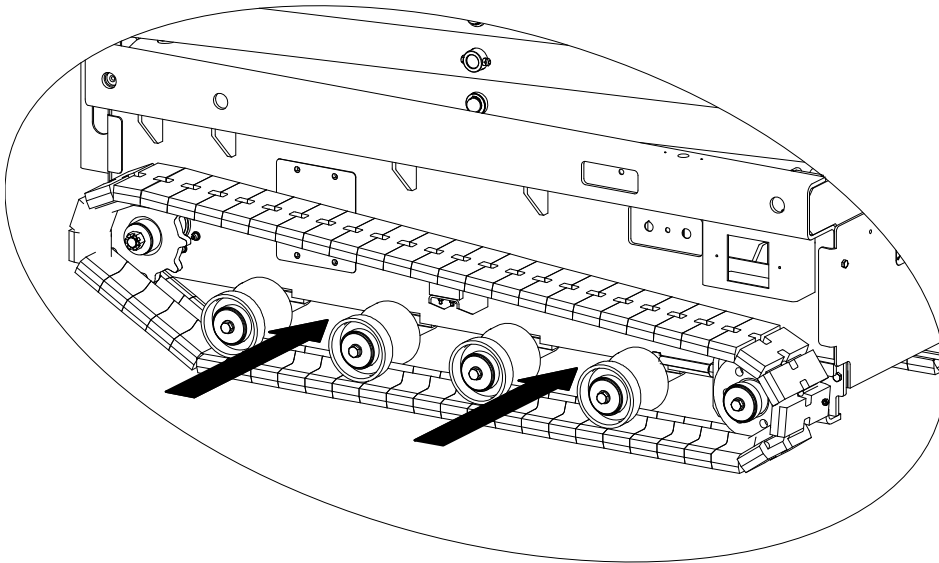
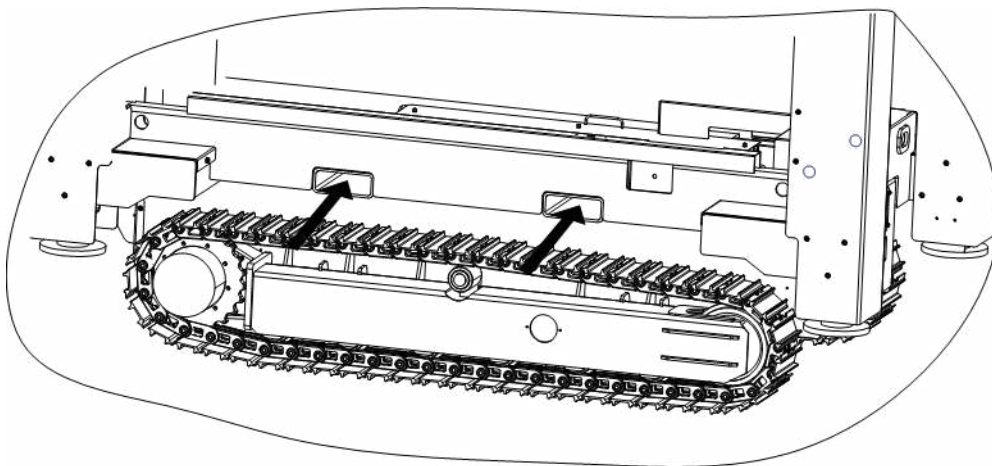

Figure 4-5 ZS0508C/ZS0610C Series forklift pockets
Figure 4-6 ZS0612C/ZS1216C Series forklift pockets
- 3) Use the forklift pockets located on both sides of the ladder. See Figure 4-5 to Figure 4-6.